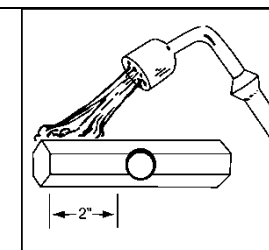

Figure 4.1
2. Heat the lower 2" of the 1" x 6" rod until it reaches a cherry-red color, as shown in Figure 4.1. [will figure 4.1 be in color so as to see where it is "cherry red"?]